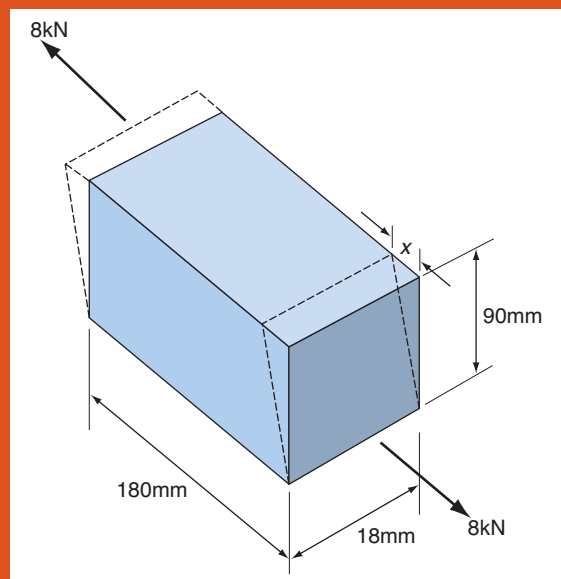

Figure 5.50
4. The block in Figure 5.50 has a modulus of rigidity of 15 GN/m². Find the horizontal deflection indicated.